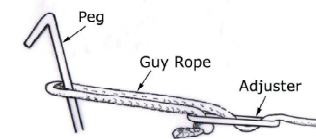

Figure 2
7. Unravel the guy ropes and loosely peg out each one ensuring that they are all pegged directly in line with the seam or pole to which they will apply tension and support. Once this is achieved tighten the adjusters so that equal tension is applied to each guy point (see figure 2).